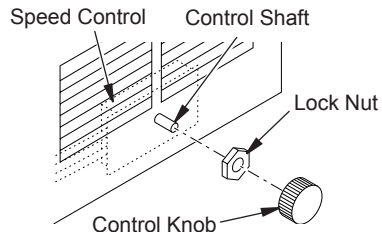

Figure 10 - Attaching Speed Control
5. Place speed control against inner wall of front panel, pushing plastic control shaft forward through opening (see Figure 10).
6. While supporting speed control, secure control shaft with lock nut by pushing and turning lock nut with pliers clockwise until it is tight against front panel. Place control knob provided on shaft (see Figure 10).